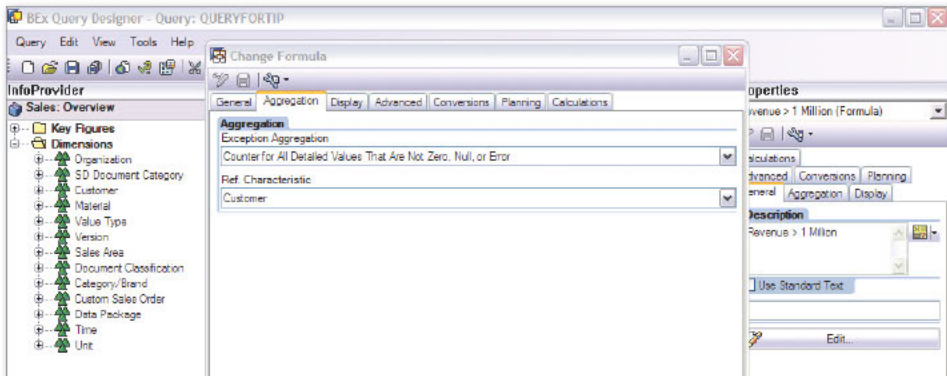

Figure 4 Aggregation Tab Selections
6. Go to the AGGREGATION tab, and select the options as shown in Figure 4.
5. Reopen the query in the ZT_SALES cube using the BEx Query Designer, and you'll see two new restricted key figures created as shown in Figure 4.
⤴ *Figure 4 BEx Query Designer Showing the New Calculated Key Figures*